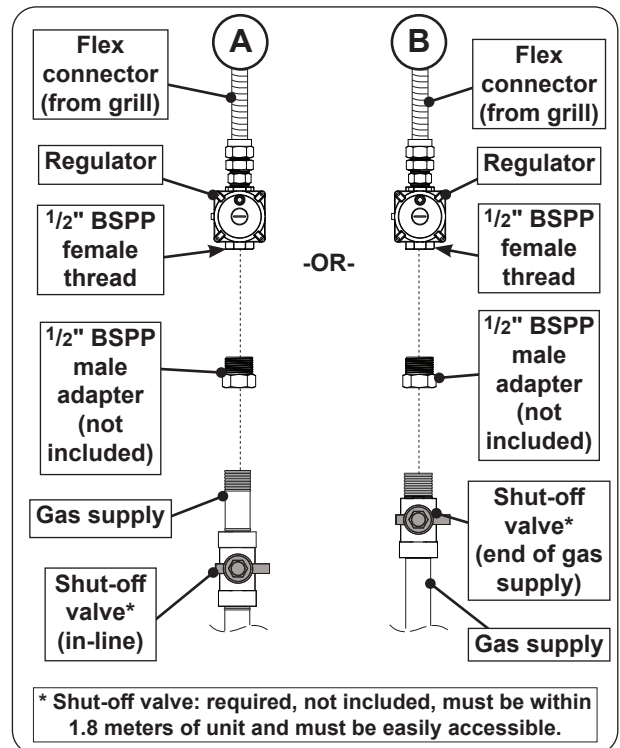

Fig. 25-1 Connecting to a gas line
- Install the gas supply to the regulator (1/2" BSPP female) using a 1/2" BSPP adapter (not included) (see Fig. 25-1, A). Tighten securely.
- Connect the shut-off valve (1/2" BSPP male) to the regulator (1/2" BSPP female) (see Fig. 25-1, B). Tighten securely.